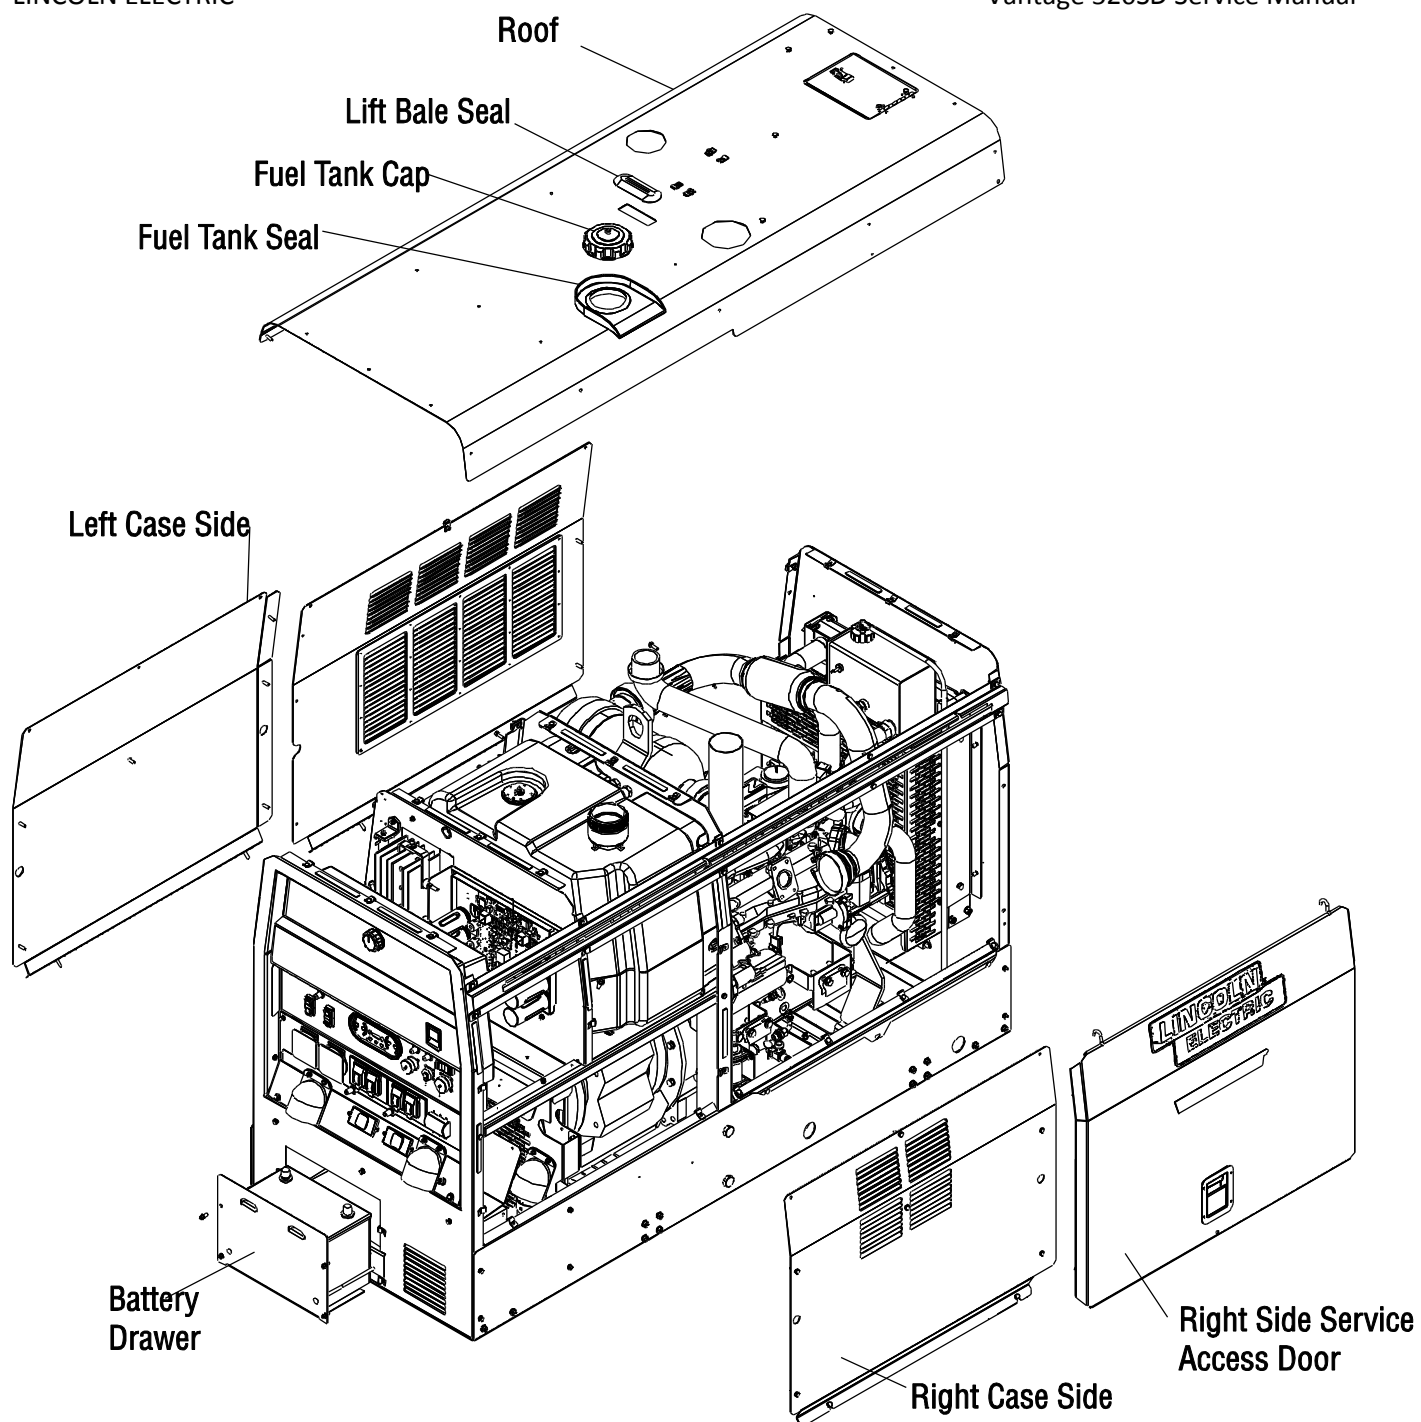

Figure F.1
3. Unlatch and open the right side service access door. **SEE FIGURE F.1.**
10. With the 3/8" wrench, remove the right case side and the left case side. **SEE FIGURE F.1.**